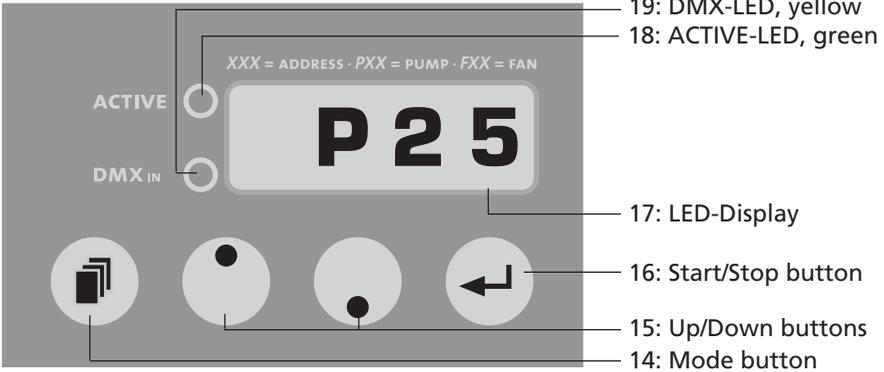

Fig. 1: Display shown at adjusting the pump output
- a) Press the Mode button [14] at the control panel until a P and two figures appear on the LED display [17] (see Fig. 1).